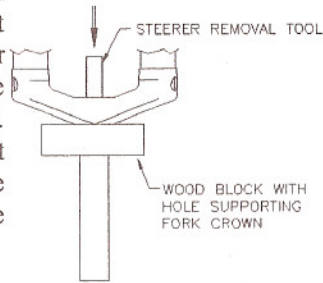

fig. 7
- Support the fork upside down by the crown on blocks of wood or another material that won't scratch, gouge, or dent the crown. Fit the steerer tube removal tool (Halsong part No.3200) into the crown against the bottom of the steerer tube. Prepare to catch the steerer tube so that it doesn't fall and get damaged. Hit the steerer tube removal tool sharply with a hammer until the steerer tube pops out. (Fig. 7)